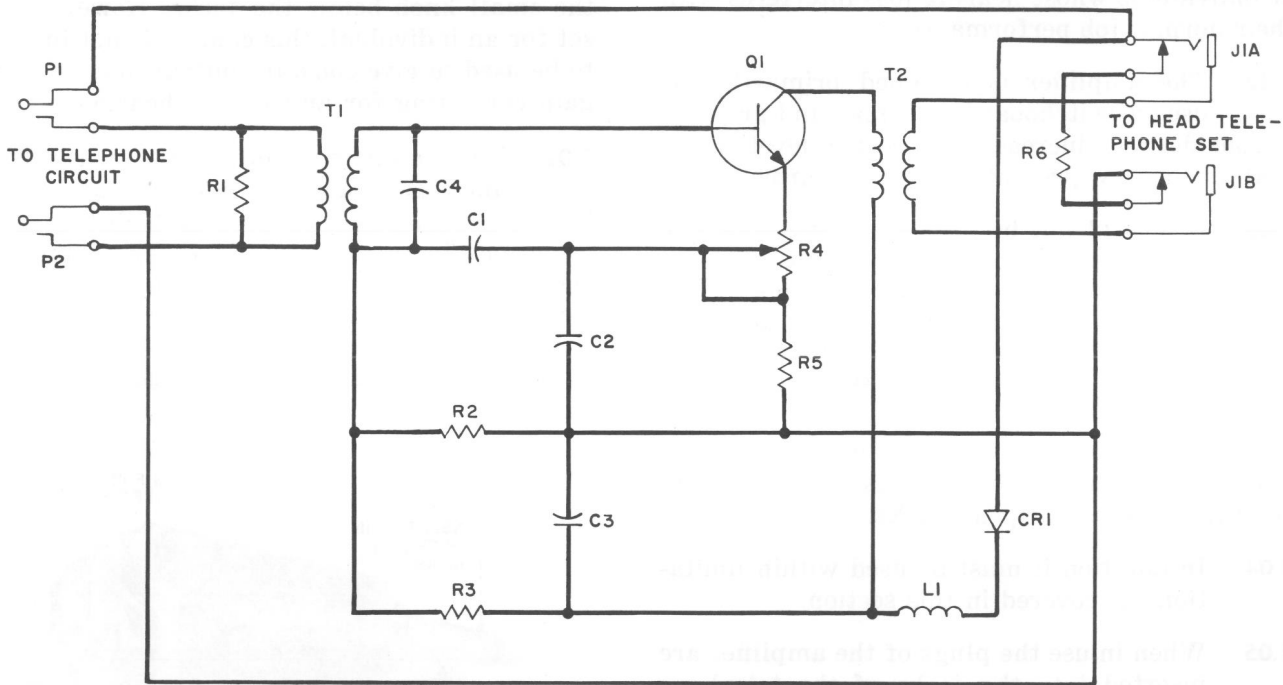

Fig. 3 – Schematic
2.02 The amplifier circuit is as shown in Fig. 3 and has a gain from approximately -2db to $+20\text{db}$. The nominal gain is 20db but due to variations in transistors and other components, the gain may range from -2db at the minimum setting to $+22\text{db}$ at the maximum setting. The required operating voltage is approximately 5 volts which is obtained from the transmitter battery supply of the telephone circuit.